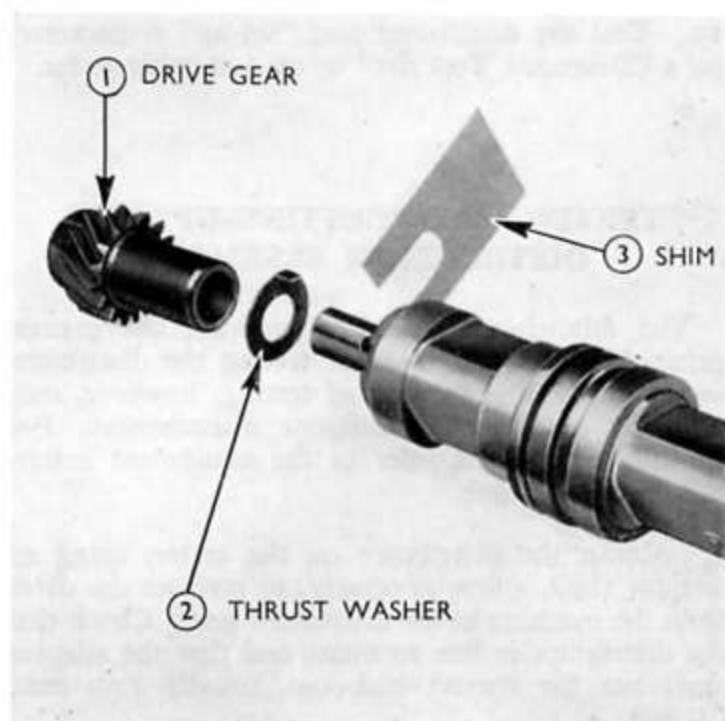

Fig. 38
3. Assemble a new wave washer, thrust washer and the 0.127 mm. (0.005 in.) shim on the distributor shaft (see Fig. 38).